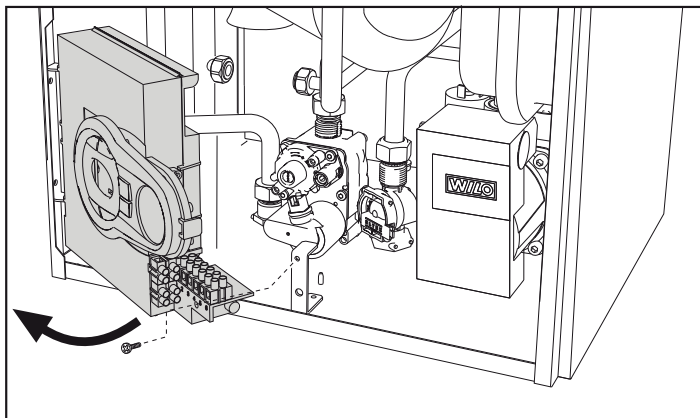

fig. 22
2. Undo the screw and rotate the control panel (see fig. 22).